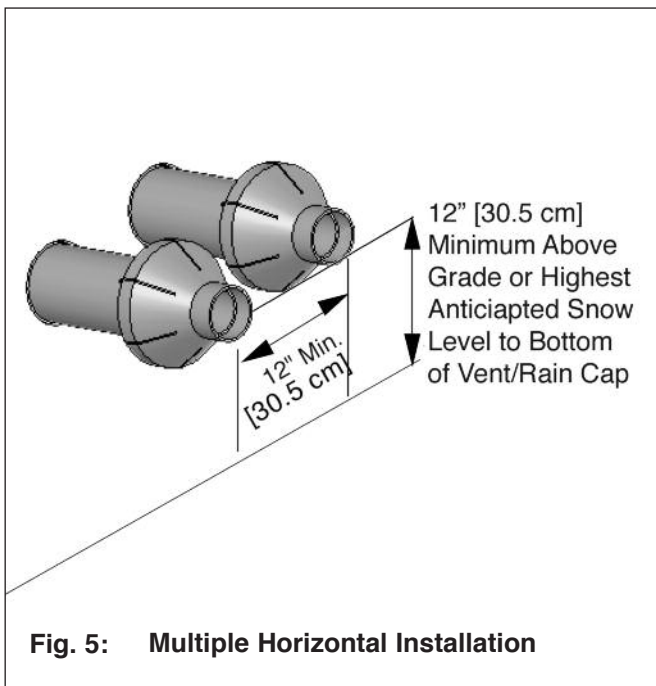

Fig. 5: Multiple Horizontal Installation
2. The wall penetration of the termination assemblies should be such that the vent outlet is a minimum 12 inches [30.5 cm] between centerlines from the adjacent termination assembly of the other boiler for installations in the U.S. as shown in Fig. 5. For installations in Canada, provide clearances as required by CAN/CSA B149.1.